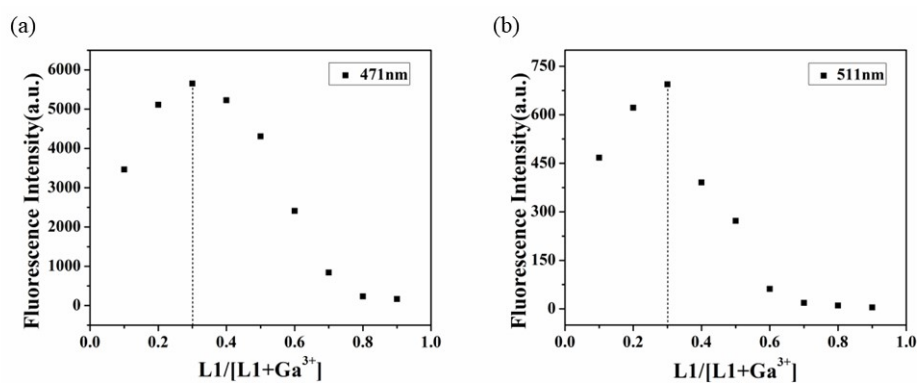

Fig. S13. Job's plot of the **L1** (a) and **L2** (b) in DMSO/H₂O buffer solution (V/V = 9:1, Tris = 10 mM, pH = 7.4).
13. **Figure S13.** Job's plot of the **L1** (a) and **L2** (b) in DMSO/ H_2O buffer solution.